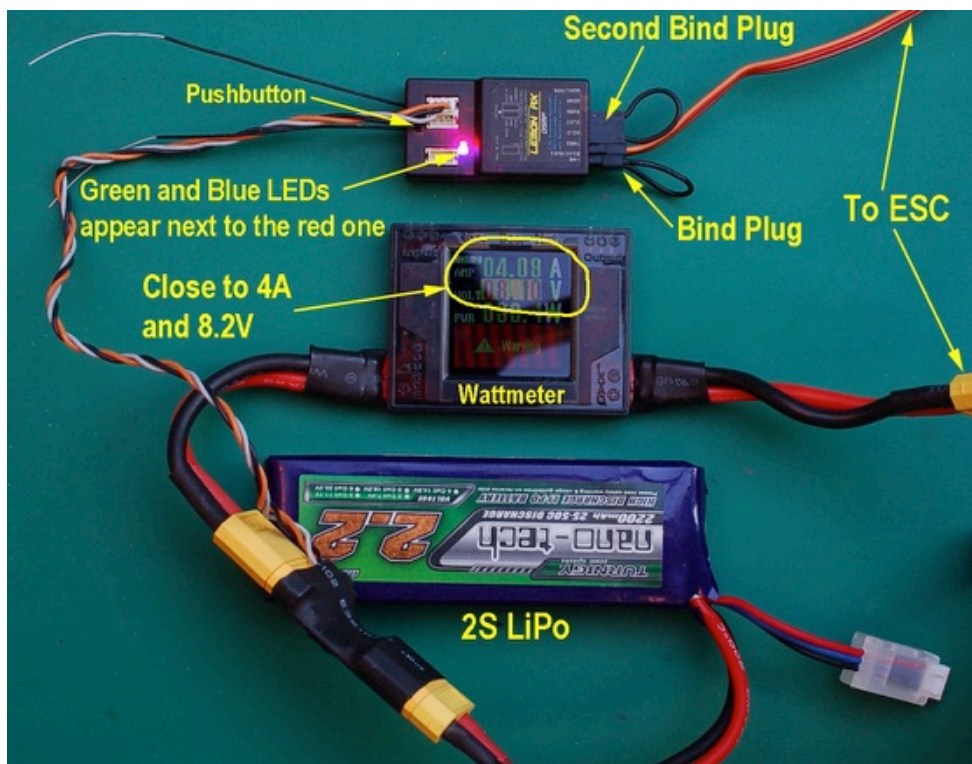

Figure A.1 – V/I sensor connected to battery output. Note the two bind plugs. The system is under load and the Wattmeter is showing 8.10V and 4.09A.
3. Connect the V/I sensor to a fully charged two-cell LiPo battery. This will provide the necessary approximately 8.2V source under load.¹³ Figure A.1 shows the meter connected in series. It must be able to measure current of at least 5A.